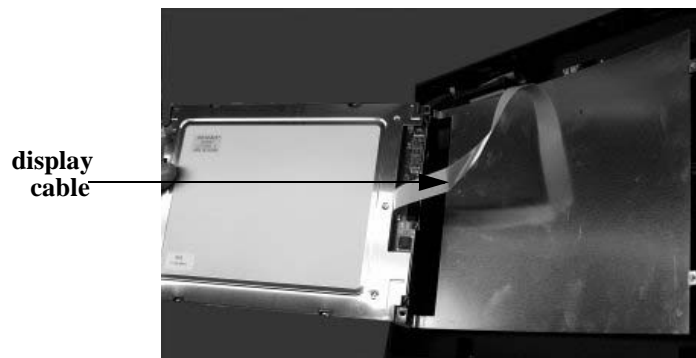

Figure 4 Disconnecting the Display Cable
11. Disconnect the display cable, shown in *Figure 4*.
Note The unit displayed in *Figure 4* is a PS10 Bright Color PowerStation, which includes a reflective metal noise shield behind the display unit. Your PowerStation will not include this noise shield.